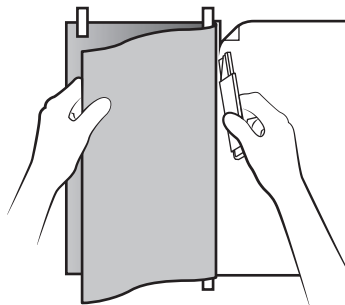

FIGURE 6
4. Fold half of the graphic back over the hinge. Peel off the liner all the way to the tape hinge. Then cut just in the liner along the hinge. Discard the liner. See FIGURE 6.